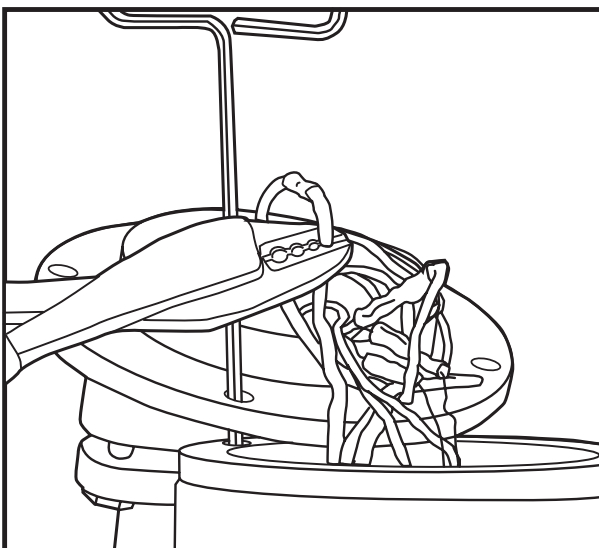

Fig.34
4. Cut off all motor leads  $\frac{3}{4}$ " down from the connector on the stator side, this way the cap and cord assembly and the connectors can be checked for continuity. See Figures 34 and 35.